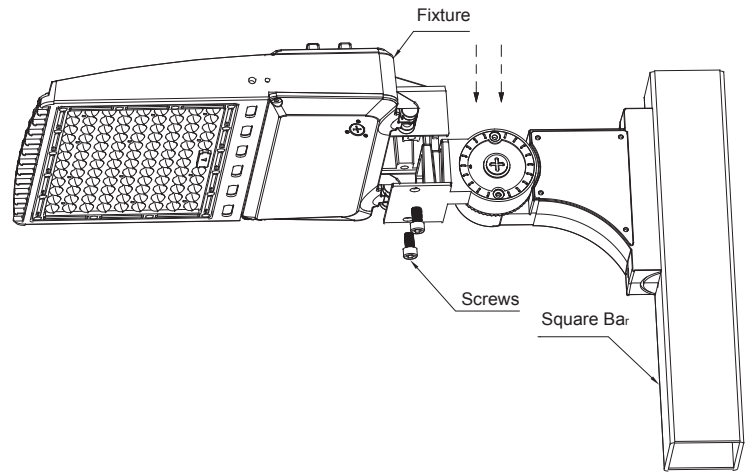

FIG.4
3. Slide down the fixture into the arm base and screw the two safety screws(FIG.4)